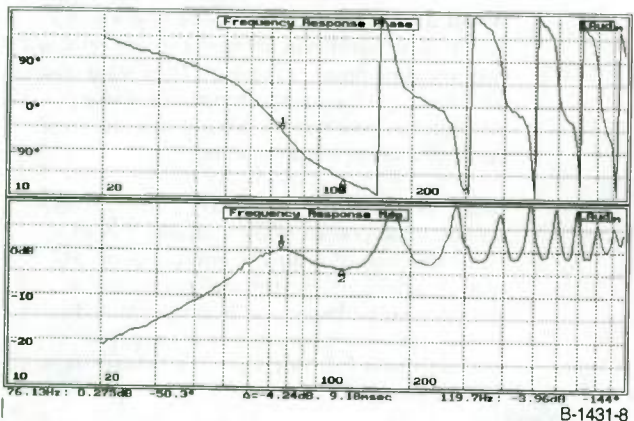

FIGURE 8: Magnitude and phase data (TL = 1.56m, Dtr = 1 terminus response).
**Line response characterization.** The woodwind resonance characterization, in conjunction with the empirical data of Fig. 4 for a line length = 0.914m and Fig. 8 for a line = 1.56m, gives sufficient data to define the TL line equation:
Figure 8 shows the magnitude and phase response for a 1.56m line. This introduces the phase response as the associated component of any measured signal. In TL design the question of phase will be very important when we try to define the TL's system response and need to use a vector summation to add the woofer's and the terminus response components.